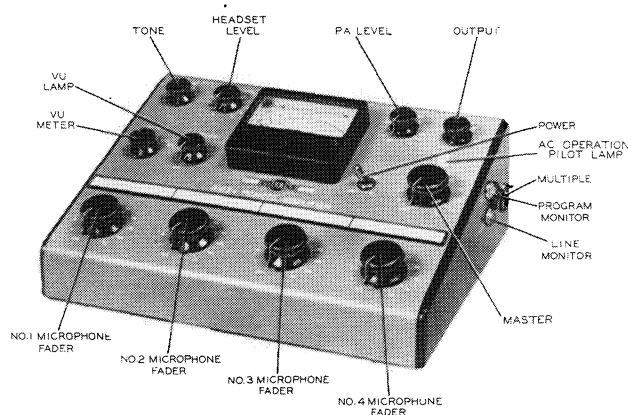

Figure 3-1. 212Z-1 Remote Amplifier, Controls
3.1.2.1 SETTING LINE LEVEL. (See figure 3-1.)